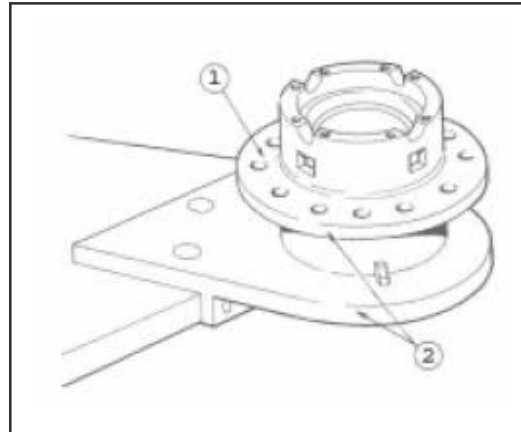

Fig. 15
1. Ensure that the mating faces of the differential case and the new crown wheel are perfectly flat. (Item 1 in Fig.15)
2. Fit the left hand differential case, with the mating face upwards in a bench plate (SER / 017 / 018) (Item 2 in Fig.15)